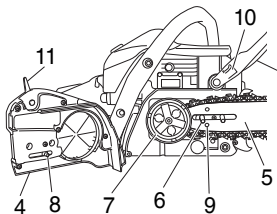

Fig. 4
6. Install the side case (4) onto the bolts (6). Make sure that the boss of chain tension adjust bolt (8) fits into the hole (9) of the bar. (Fig. 4)